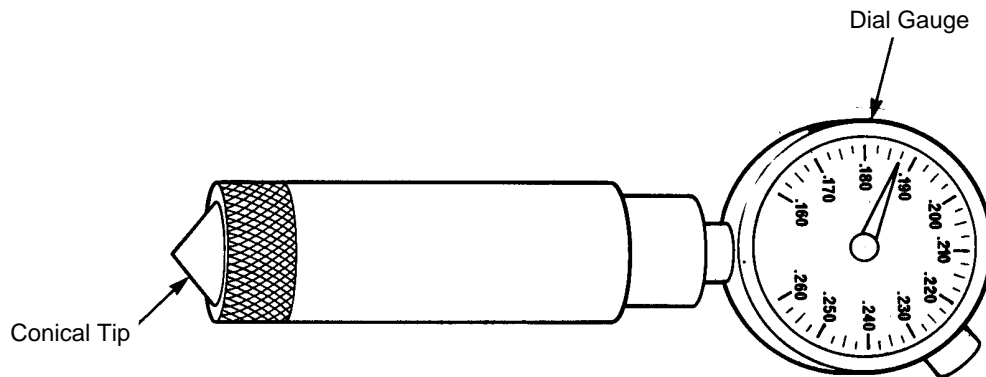

Figure 3 - Brencor Countersink Gauge
5.5.4 Use Brencor countersink check gauges (see Figure 3) according to the manufacturer's instructions.